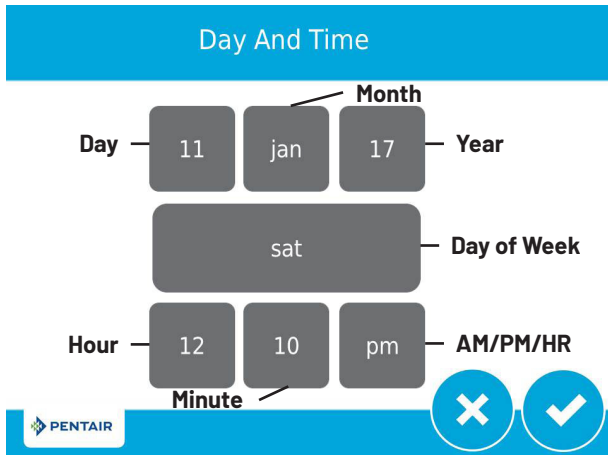

Figure 9: Day and Time Screen
- The **Day and Time** button will be flashing, indicating that the day of the week and time need to be set. If the date and time are incorrect, press the **Day and Time** button to update to the correct day and time. The Day and Time screen (Figure 9) appears.